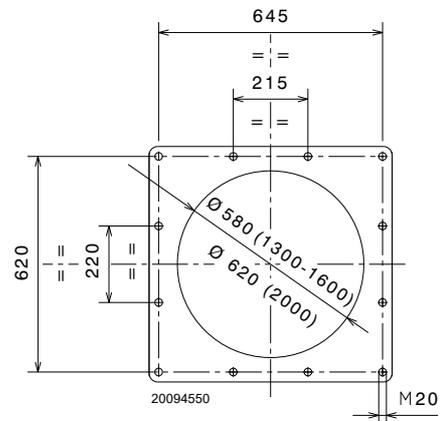

Fig. 14
Pierce the closing plate of the combustion chamber, as in Fig. 14. The position of the threaded holes can be marked using the thermal insulation screen supplied with the burner.
- Insert the entire burner on the boiler hole, previously fitted, as in Fig. 14, and fix it with the screws supplied.